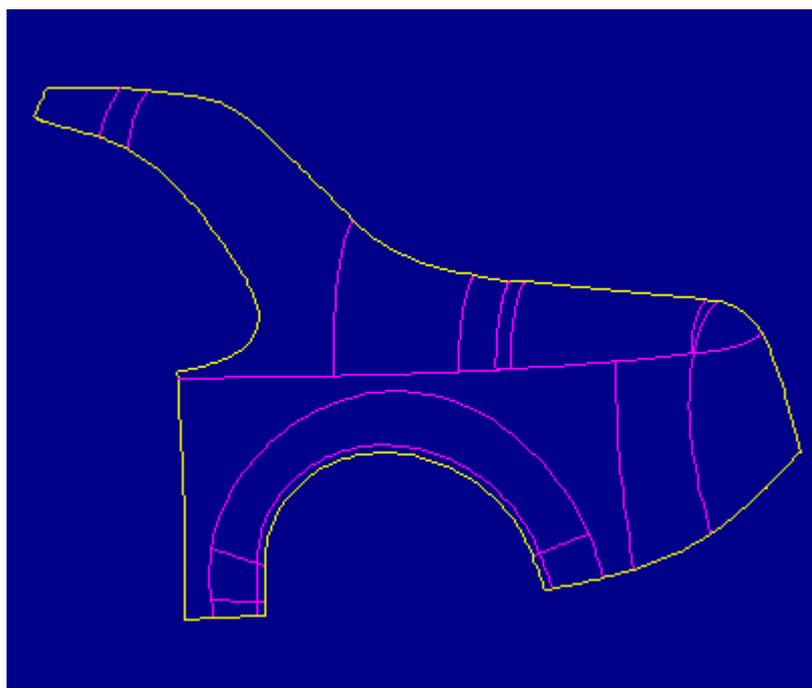

Figure 49
32. In the ACCEPT FIX menu select **Accept** to finish setting tangency. To view the improvements, check the resulting dihedral angles as described above in step 30. Figure 49 shows the final state of the imported surfaces.